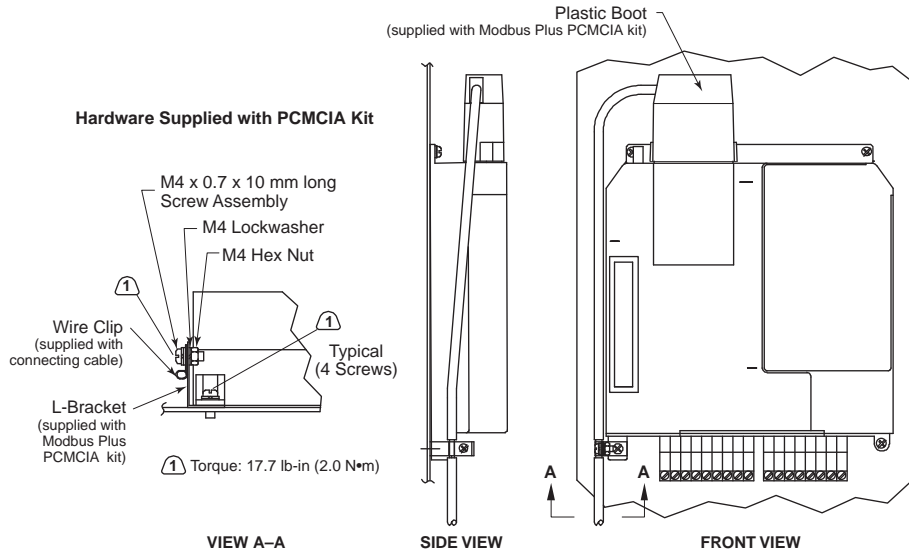

Figure 4: Cable Grounding (ATV66D16N4 to C31N4 & ATV66D12M2 to D46M2 models only)
- i. Thread the screw, washer, L-bracket, second washer, and nut through the tab on the grounding clip (supplied with the drop cable) as shown in Figure 4. Tighten to specified torque.
- ii. Completely unthread the bottom left screw on the control basket. Loosen, but do not completely unthread the other three screws on the control basket (see Figure 4).
- iv. Thread the lower left screw through the hole in the L-bracket. Tighten all control basket screws to specified torque (see Figure 4).